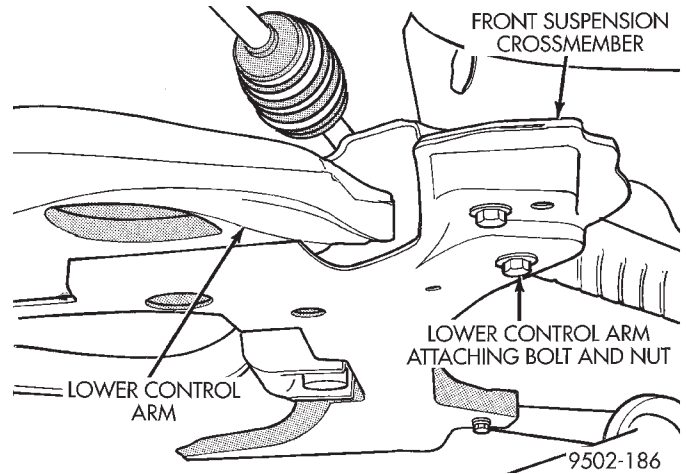
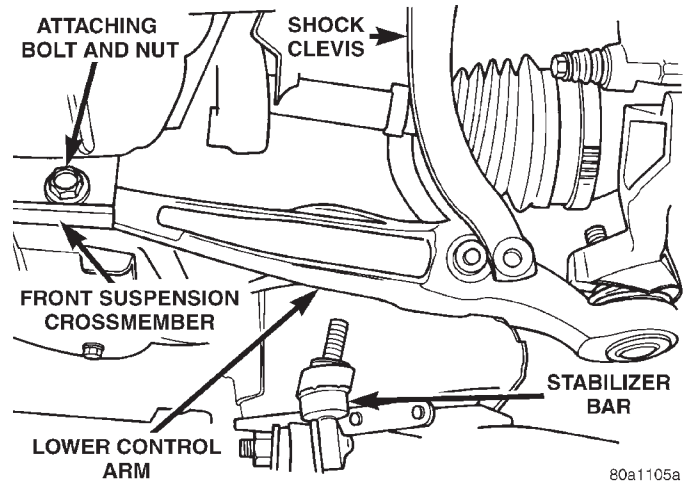

Fig. 35 Lower Control Arm Attachment To Front Suspension Crossmember
Fig. 36 Attaching Front Of Lower Control Arm To Suspension Crossmember
(10) Lower the one side of the stabilizer bar away from the lower control arm and body of vehicle.
(11) Remove the nut and bolt (Fig. 35) attaching the rear of the lower control arm to the front suspension crossmember.
(12) Remove nut and bolt attaching the front of the lower control arm to the front suspension crossmember (Fig. 36).
(1) Position rear of lower control arm into front suspension crossmember first. Then install front of lower control arm in front suspension crossmember. Install bolts and nuts (Fig. 36) and (Fig. 35) attaching the front and rear of lower control arm to front suspension crossmember. **Do not tighten front attaching bolt at this time .**
(2) Tighten lower control arm rear attaching nut and bolt (Fig. 35) to a torque of 95 N·m (70 ft. lbs.).
(12) Tighten front lower control arm nut and bolt (Fig. 36) to a torque of 182 N·m (135 ft. lbs.).
(13) Install wheel and tire assembly.
(14) Tighten the wheel mounting stud nuts in proper sequence until all nuts are torqued to half specification. Then repeat the tightening sequence to the full specified torque of 135 N·m (100 ft. lbs.).
(15) Remove jack stand from under lower control arm and lower vehicle to the ground.
(16) Check the vehicles alignment specifications and set front Toe to preferred specifications.